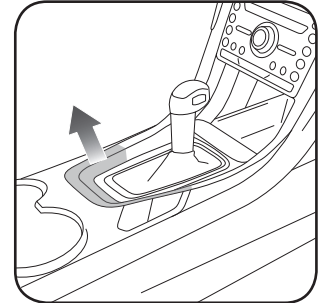

Fig. 1.2
2. Unclip and remove the U-shaped trim at the rear of shifter. (Fig. 1.2)